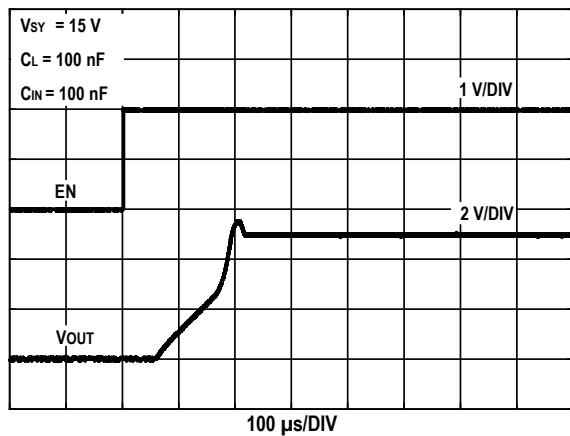
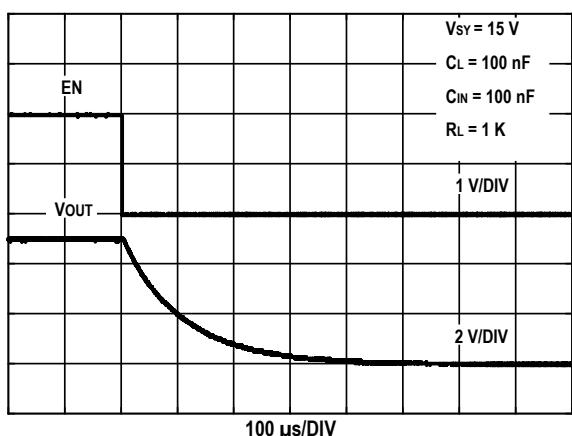

Figure 11. Enable Response
Figure 12. Disable Response
For power consumption sensitive applications, ADRXXX offers useful shut down feature. The part burns just $10\text{ }\mu\text{A}$ in shutdown mode, the shutdown procedure can be found in Figure 11 and Figure 12. Shutdown mode is controlled by pin 3 (EN). The voltage threshold of this pin is around 1.2 V and compatible with CMOS/TTL logic.